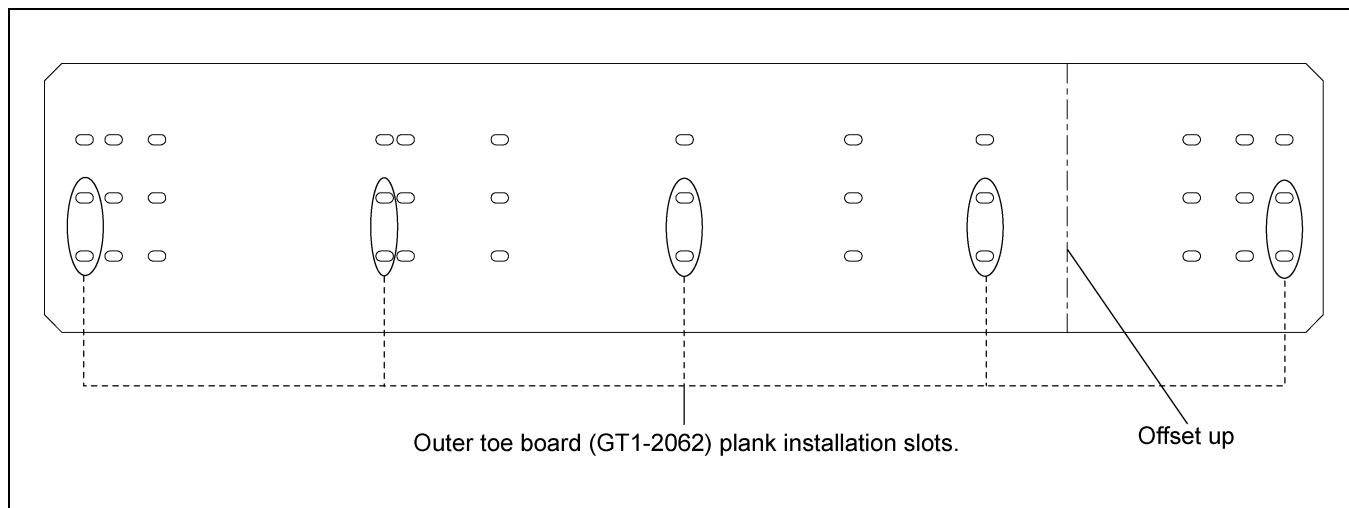

Figure 5H 30' Outer Toe Board (GT1-2062)
4. Outer toe board (GT1-2062) is arranged with various slots to install plank. Install planks to corresponding slots as shown in Figure 5H.